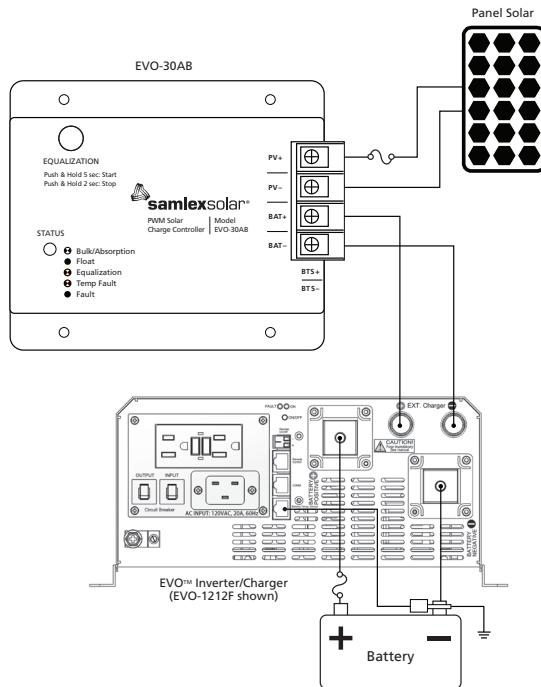

Fig 6.5 EVO-30AB with EVO™ Inverter/Charger
3. Install the EVO-30AB as described in Section 6.1 to 6.3 of this manual, but making the battery connection to the “External DC Charger connection on the EVO™ Inverter/Charger. See Fig 6.5 below.